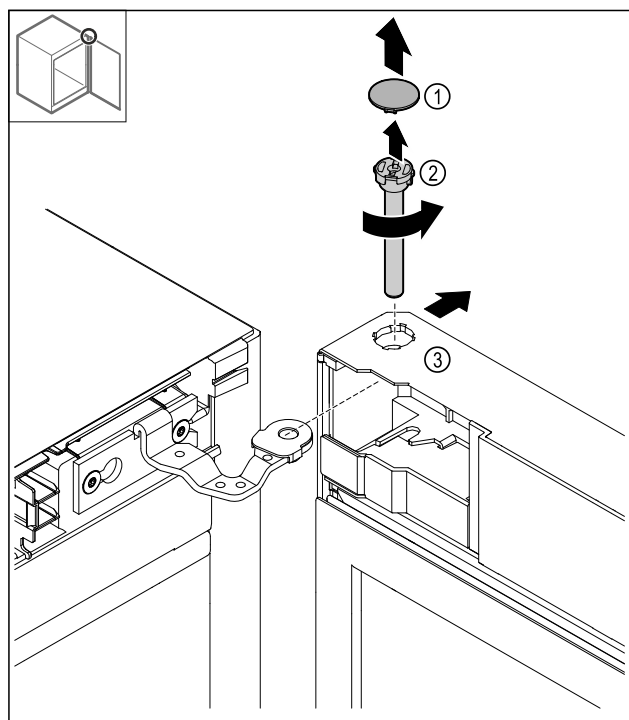

Fig. 14
- ▶ Removing the cover Fig. 14 (1).
- ▶ Loosen the bolt Fig. 14 (2) anti-clockwise and pull it out.
- ▶ Tilt the door Fig. 14 (3) slightly.